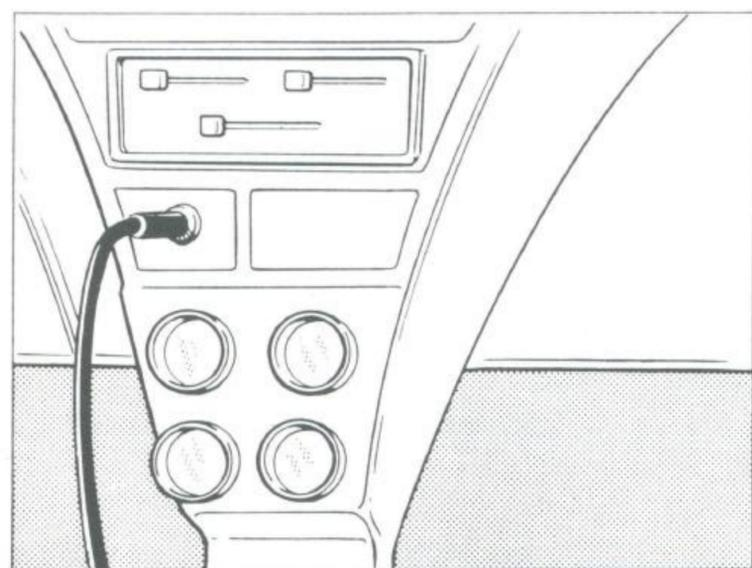

Fig. 3-3 Use of Cigarette Lighter
2. An alternative way of obtaining power is to use the cigarette lighter. A plug, as shown in Fig. 3-3, is available at auto accessory shops or electronics parts stores.